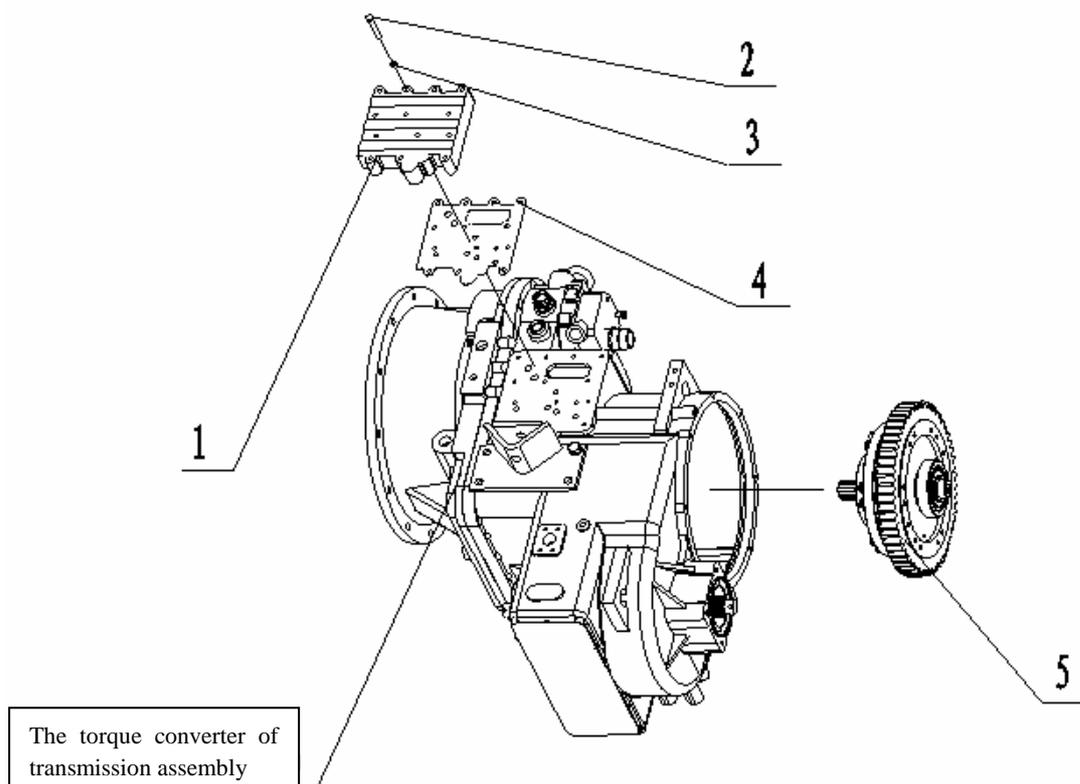

Figure 10
Assemble the four-axis assembly (2) (refer to the Figure 10)
29. Coat the lubricating oil on the medium cover bearing fossa and the  bearing, and install the direct gear assembly (5).
30. Place the seal gasket (4) on the variable speed control valve (1), then install the variable speed control valve (1) and the seal gasket (4) on the box assembly, and tighten with the bolt (2) and the washer (3).  $52 \pm 7 \text{Nm}$. Tighten after coating rubber on the joint of variable speed pressure gauge.  1545 screw sealant